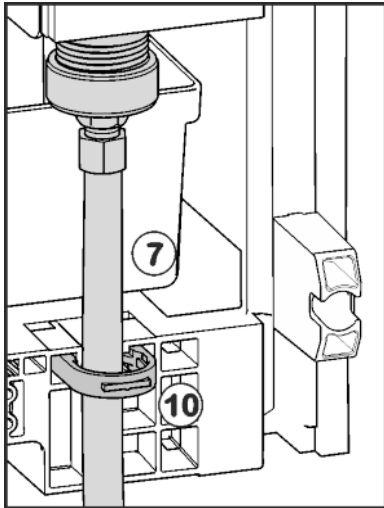

Fig. 19
- ▶ Affix the water supply Fig. 19 (7) to the housing, if necessary, using the locking element Fig. 19 (10). Before fitting into the cabinet: